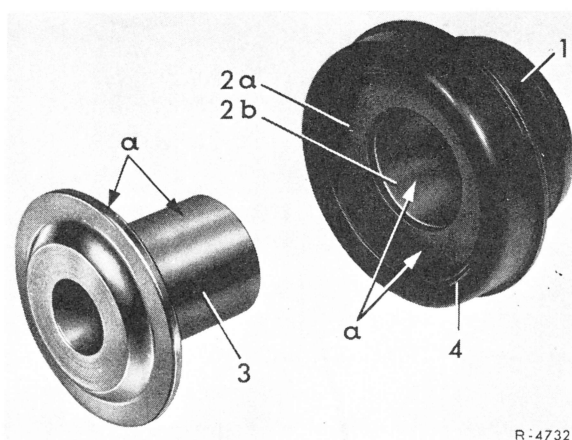

Fig. 1
- 1 Pull out inner bushing of rubber slide bearing. (Fig. 1).
5 Provide slide surfaces "a" of rubber slide bearings with specified lubricant. For this purpose, always pull out inner bushing (Fig. 1).